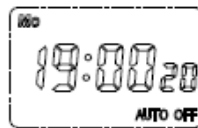

Figure 7
4.2.2.1 Press button “MD” for 3s to cancel the keyboard lockout, so that “LOCK” may disappear, Press “◀” to select the adjusted position and press “-” and “+” to plus and minus, so as to adjust the display time to the current time, see Figure 7.